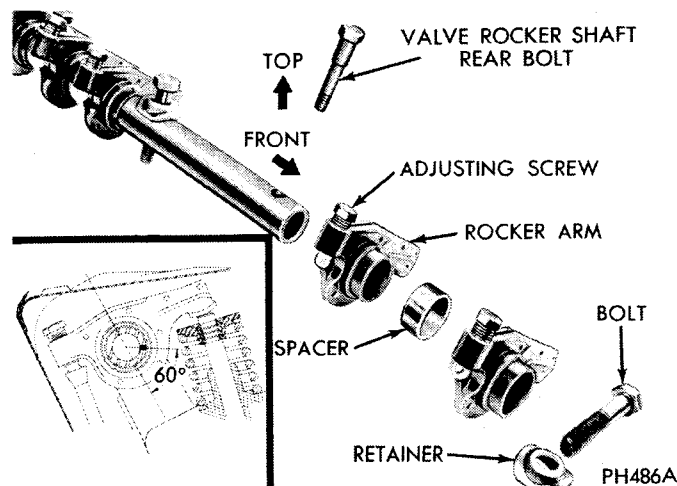

Fig. 4—Rocker Arms and Shaft Assembly
(1) The rocker arms and fool proof shaft assembly must be installed (Fig. 4) so the flat end of the rocker shaft is on top and points toward front of engine. This is necessary to provide proper lubrication to the rocker assemblies.
(2) Be sure to install long retainer in center position only. Install rocker shaft retainers between rocker arms so they seat on rocker shaft and not on extended bushing of rocker arms.
(3) Install rocker shaft bolts. Tighten to 25 foot-pounds. Install special bolt at rear of engine. Tighten to 200 in. lbs.
(4) Adjust tappets hot; intake .010 inches, exhaust .020 inches. With engine running.
(5) Inspect cylinder head cover for distortion. Straighten if necessary.
(6) Place new cylinder head cover gasket in position and install the cylinder head cover. Tighten nuts to 40 inch-pounds.
(7) Install closed ventilation system and evaporation control system.
(6) Install rocker arms and fool proof shaft assembly with oil hole positioned as shown in (Fig. 4) to provide proper lubrication to rocker assemblies. **Install rocker shaft retainers between rocker arms to the seat on rocker shaft and not on extended bushing on rocker arm.** Be sure to install long retainer in center position only. Install rocker shaft bolts and tighten to 25 foot-pounds. (5/16 screw at rear of engine tighten to 200 in. lbs.)
(7) Loosen the 3 bolts holding intake manifold to exhaust manifold. This is required to maintain proper alignment.